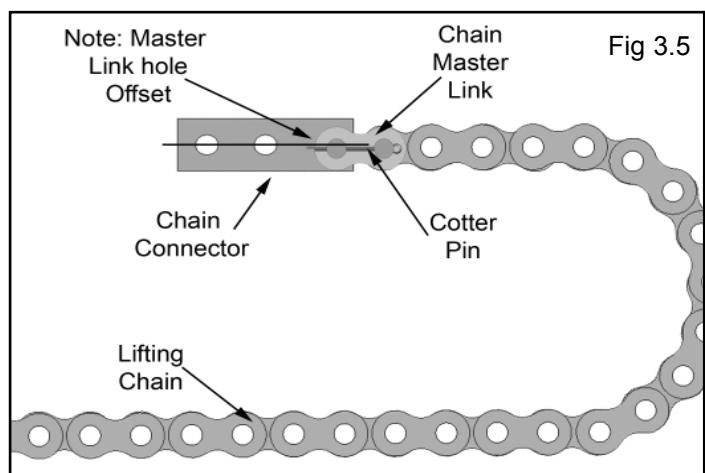

Fig 3.5
6. Connect the Chain Connector to the Chain using the Chain Master Link. Bend the Cotter Pin. (See Fig 3.5)